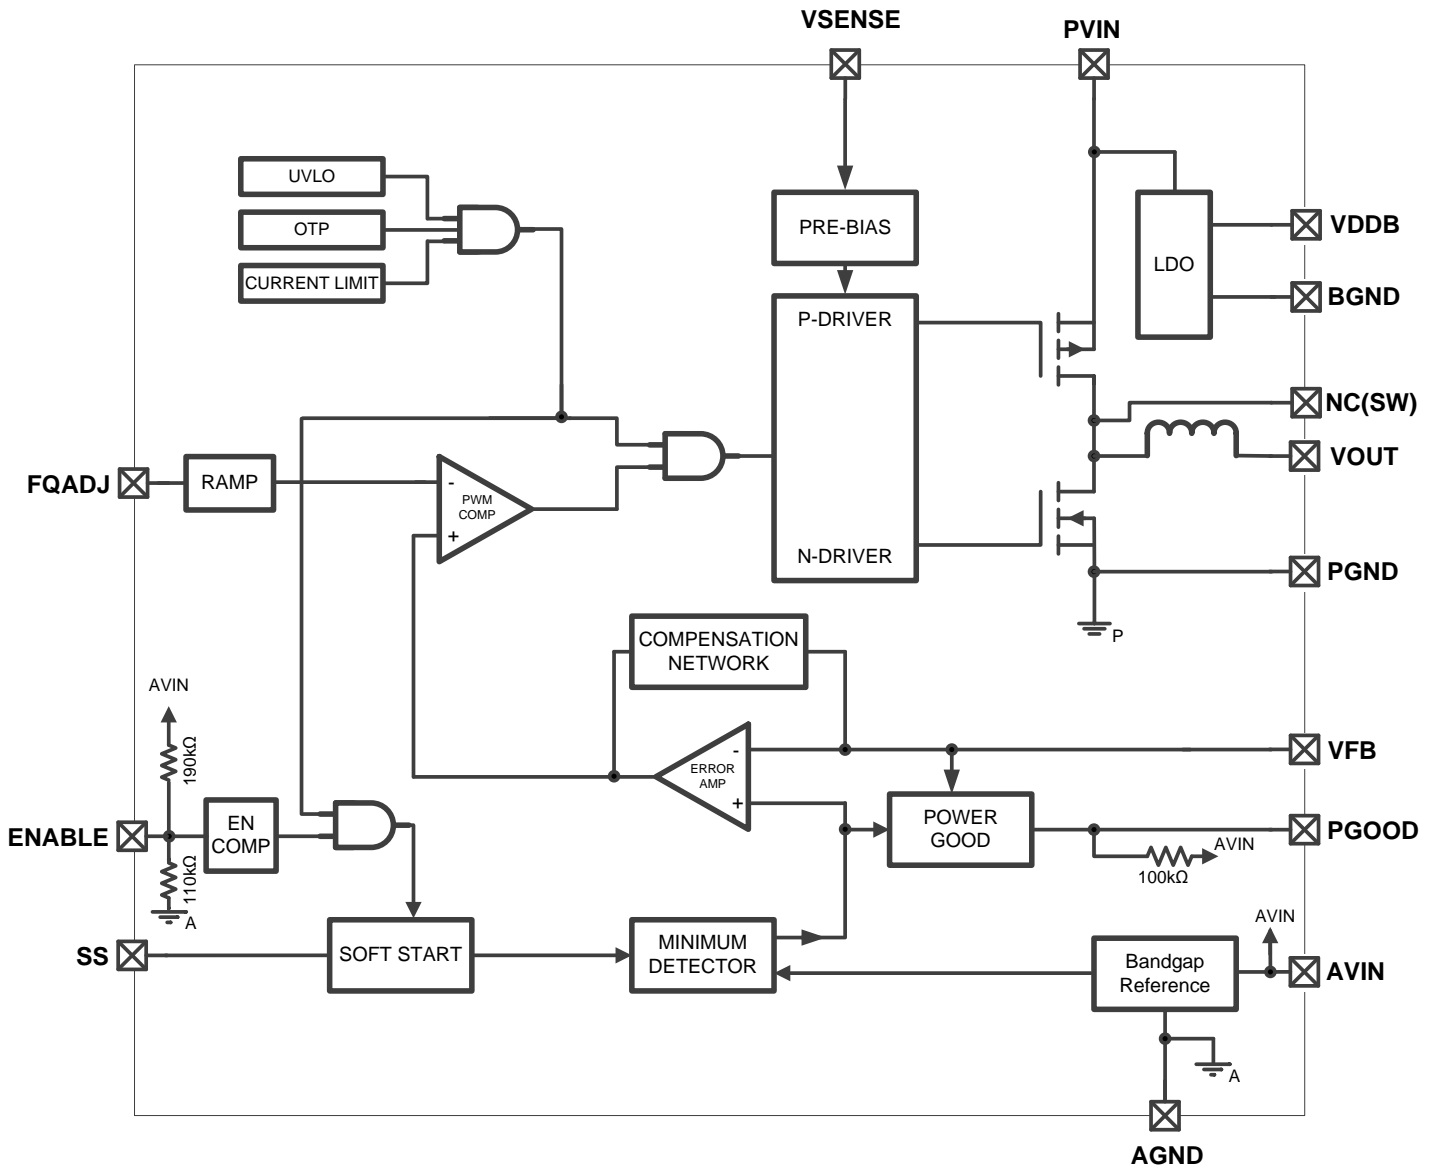

Figure 20: Functional Block Diagram
The SS pin, in conjunction with a small external capacitor between this pin and AGND provides the soft-start function, designed to limit in-rush current during start-up. When the part is enabled, soft-start (SS) current generator charges the SS capacitor in a linear manner. As long as the SS voltage level is smaller than the feedback reference (about 0.6V) the SS voltage is used as feedback reference, ensuring a linear increase of the output voltage. Once the voltage on the SS capacitor reaches 0.6V, the minimum detector (**Figure 20**) will select the bandgap reference as target, while the voltage across the SS capacitor will continue ramping up until it reaches about 1.5V. As the SS voltage slew rate depends on the SS capacitor, so does the output voltage.